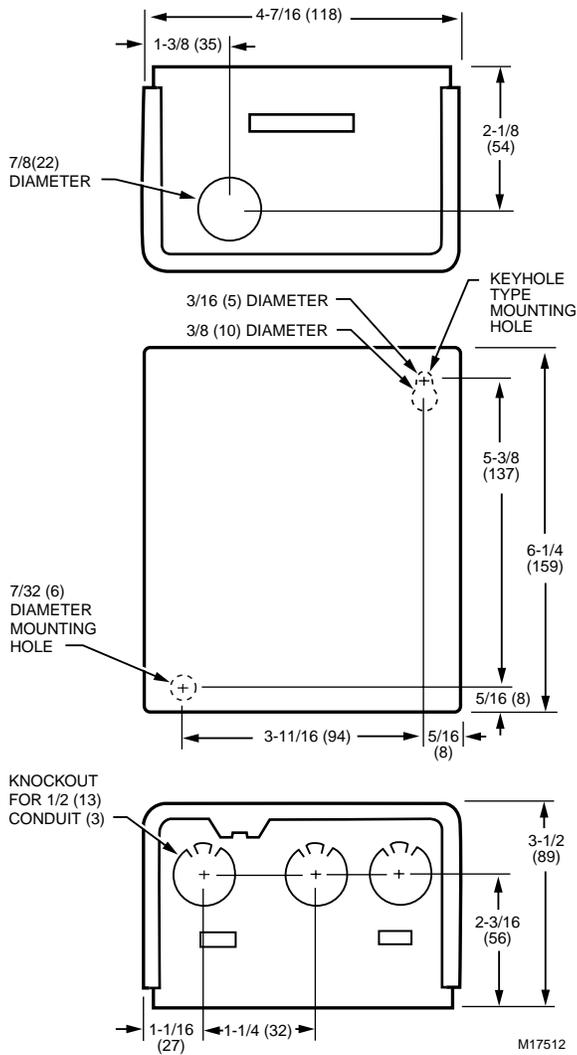

Fig. 1. R8845U dimensions in in. (mm).
**Dimensions:** See Fig. 1.
1. Position the relay and mark the mounting holes. See Fig. 1.